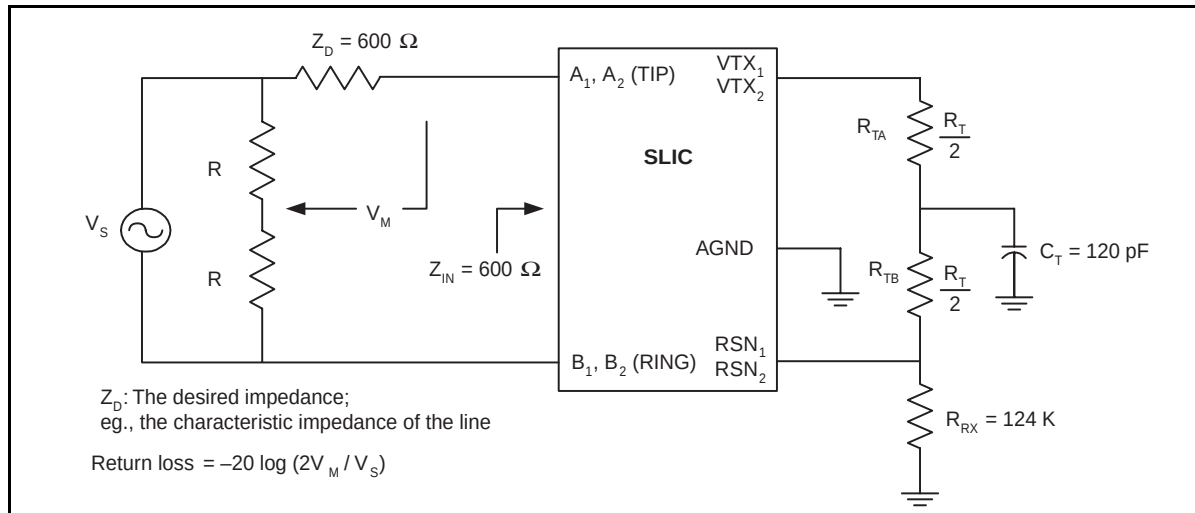

Figure 6 - Two-Wire Return Loss Test Circuit
5. Group delay can be greatly reduced by using a Z_T network such as that shown in Figure 6. The network reduces the group delay to less than 2 μ s and increases 2WRL. The effect of group delay on linecard performance also may be compensated by synthesizing complex impedance with the QLSLAC™ device.